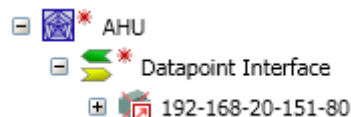

Figure 100: Navigation View after Import of LWEB-800 Project
3. The graphical view is created and displayed in the navigation view. The data point interface contains a link to the device in the imported project (see Figure 100). If a matching device with the same IP address exists in the LWEB-900 project, the link is resolved automatically, else a broken link is displayed. To fix the broken link, simply drag a device from the **Devices** folder and drop it on the broken link.